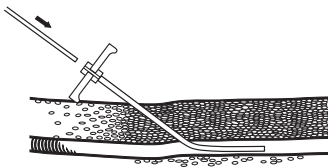

Fig. 3
12. Introduce the catheter/obturator assembly into the sheath as far as possible. **NOTE:** Resistance may be felt approximately 3-7 cm distal to the catheter suture wing when introducing the assembly into the sheath due to an increase in outer diameter. (**Fig. 3**)